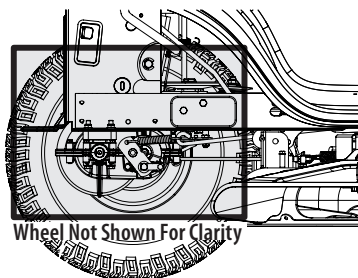

Figure 24
- Clean around and near the transmission, axle and the fan area. See Figure 24.